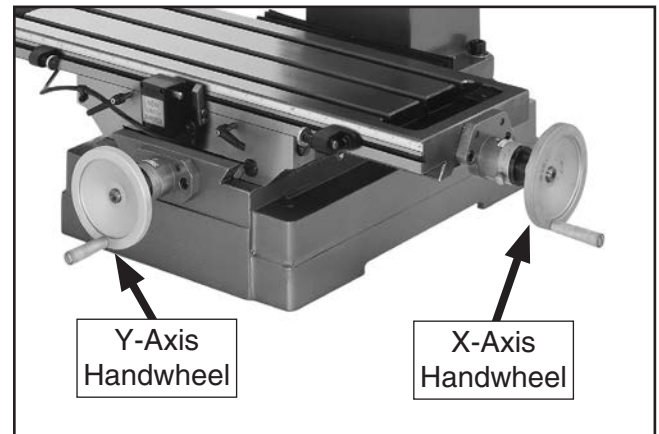

Figure 16. Handwheel handles attached.
5. Slide handwheels onto right end of X-axis leadscrew and Y-axis leadscrew (see **Figure 16**), then secure them with (2) M8-1.25 x 12 cap screws and (2) 8mm handwheel flat washers.